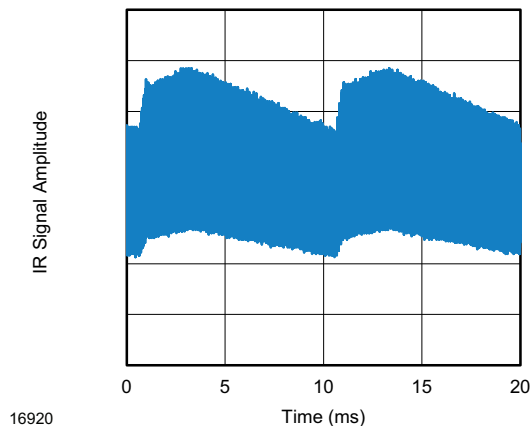
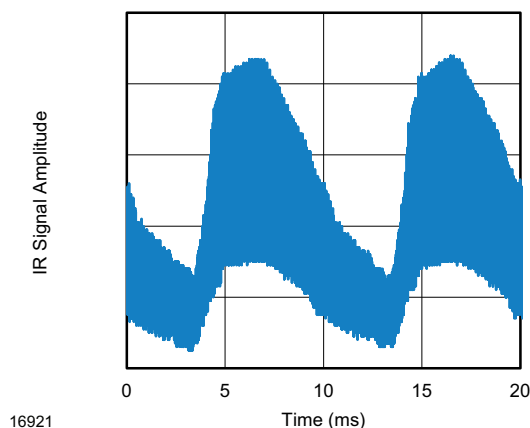

Fig. 14 - IR Disturbance from Fluorescent Lamp With Low Modulation
Fig. 15 - IR Disturbance from Fluorescent Lamp With High Modulation
- Strongly or weakly modulated patterns from fluorescent lamps with electronic ballasts (see Fig. 14 or Fig. 15).